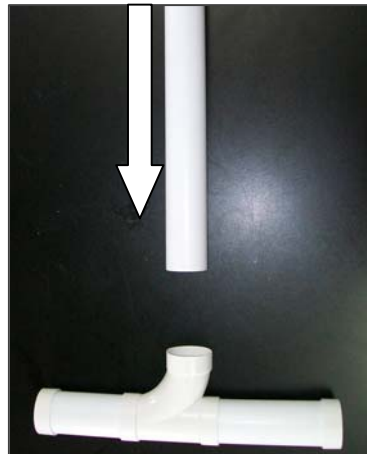

Figure 3.1 – Patte de support / support tube
- Assemblez les deux parties de pattes ensemble (Figure 3.1).
- Put the support tub into the culture tub(A-18/1) and push down firmly (Figure 3.1).